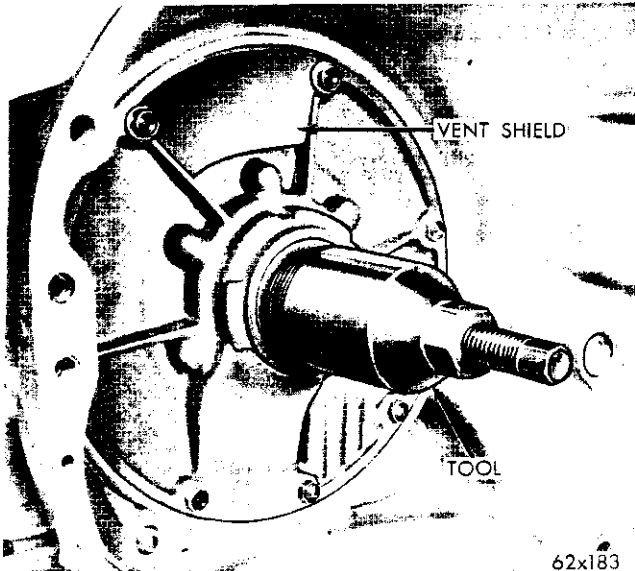

Fig. 48—Removing Front Oil Seal
(1) Screw the seal remover, Tool C-3861 into the seal (Fig. 48). Tighten screw position of tool to withdraw the seal.